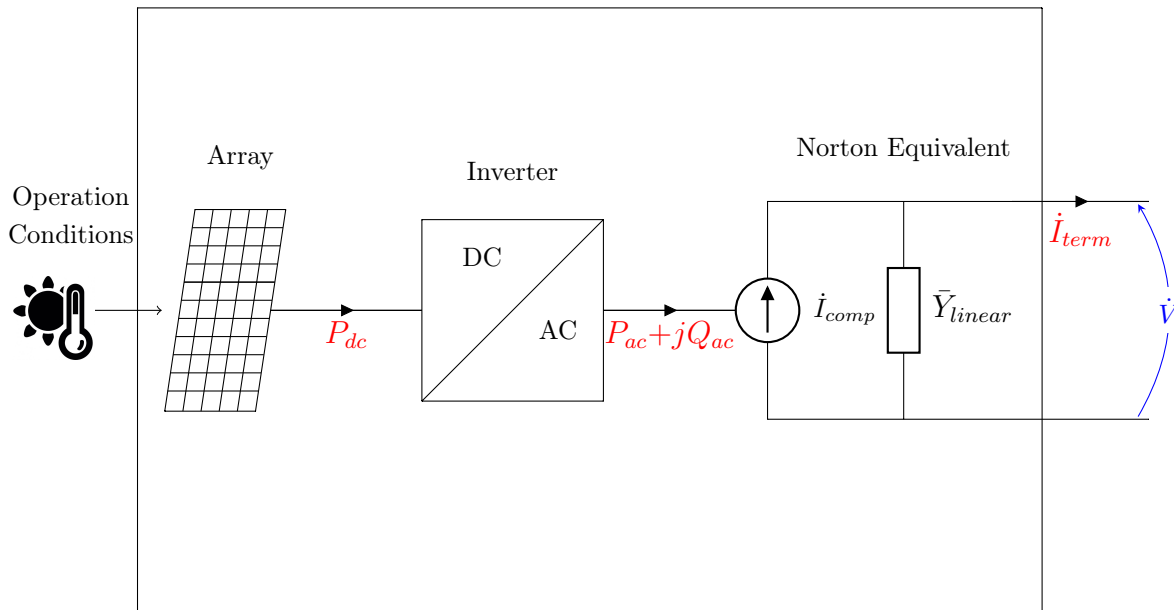

Figure 1: Block diagram of the PVSystem2 element model
Figure 1 shows a schematic diagram of the PVSystem2 element model recently implemented in OpenDSS version 8.6.6 at Build 5. The model combines the photovoltaic (PV) array and the PV inverter. It assumes that the inverter is capable of tracking the maximum power point (mpp) of the panel quickly, allowing adequate use in QSTS simulations with a time step of at least one second. This considerably facilitates PV modeling and is an adequate assumption for most interconnection impact studies.